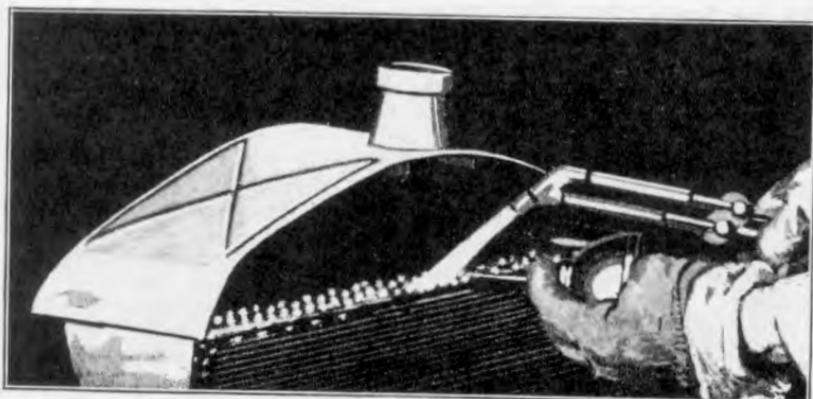

Fig. 416
- 830 Before replacing the front wall, it is usually necessary to reset the tubes. Clean the tubes in the header with acid and a brush; using an oil can to hold the acid, facilitates the operation (See Fig. 416). The radiator is then set on the bench hangers and solder is flowed on the tubes in the same manner as the bottom header is reset (See Pars. 815 and 816).